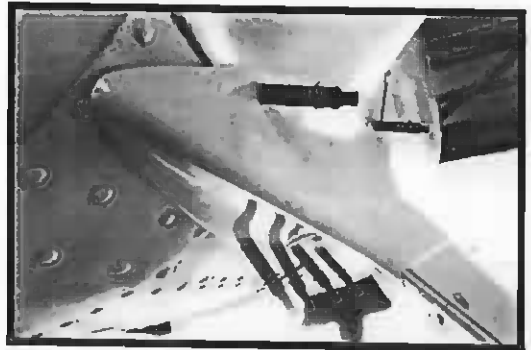

Figure 1-8
16. Use a #28 or 9/64" drill bit to drill holes through the cuff and fuselage skin at the six locations marked by dimples in the cuff. These dimples do not show up very well in a photograph; therefore, Figure 1-8 shows these holes already drilled with Cleco fasteners installed.